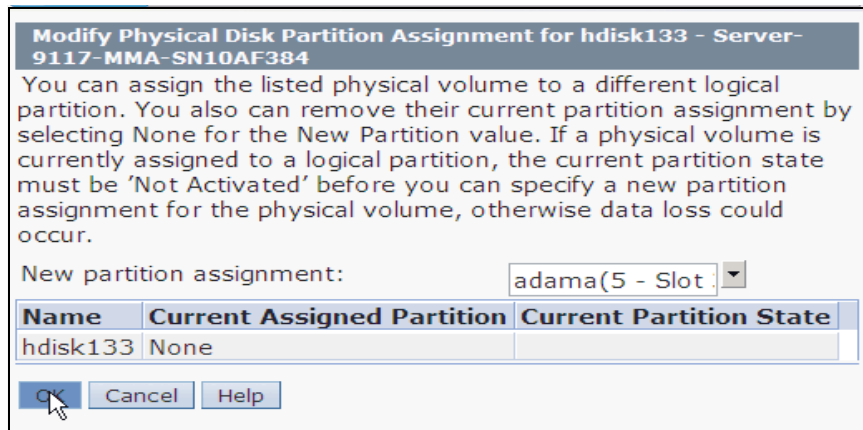

Figure 3-16 HMC: Confirming to assign to the selected partition
- c. Click **OK** to confirm the selection for the selected partition (Figure 3-16).